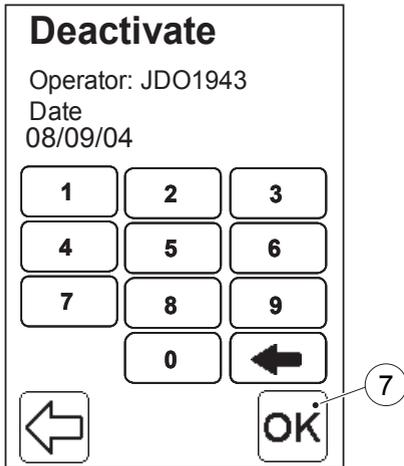

FIGURE 4-24
- e) Press the Confirm button (6). *FIGURE 4-24* will be displayed.